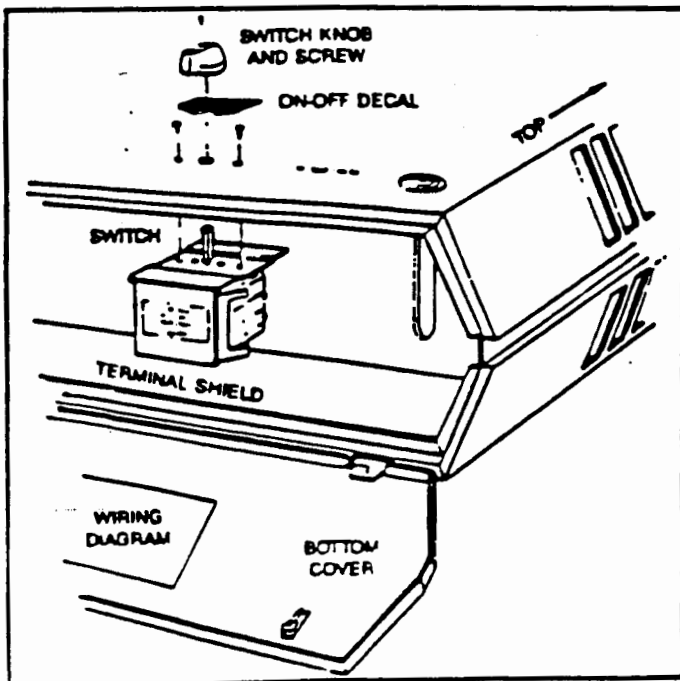

FIGURE 1 - Switch Location on 7-20 KW Unit
#### DISCONNECT SWITCHES WITH TERMINAL SHIELD. REFER TO FIGURES 1 AND 2 .
- a. 7-20 KW Units — 5/8" wide knockout slot is located centered on the heater back approximately 3 1/2" from the bottom of the unit with a small knockout on each side. See Figure 1.